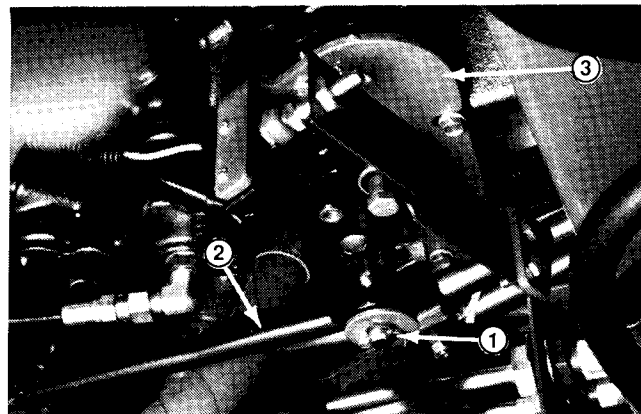

Figure 22
2. Move seat forward. Remove upper and lower grill from in front of radiator. Disconnect four (6) latches and remove radiator cowl. Disconnect four (4) latches and remove lower grill support.
3. Remove cotter pin and disconnect control rod from pump (Fig. 22).